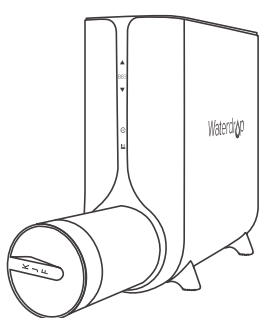

Figure 22
- (3). Install the new filter. Put the new one into the filter barrel. The filter handle is perpendicular to the display bar. **(Figure 22)** Then rotate 90° clockwise until the filter handle is in line with the display bar. **(Figure 23)**